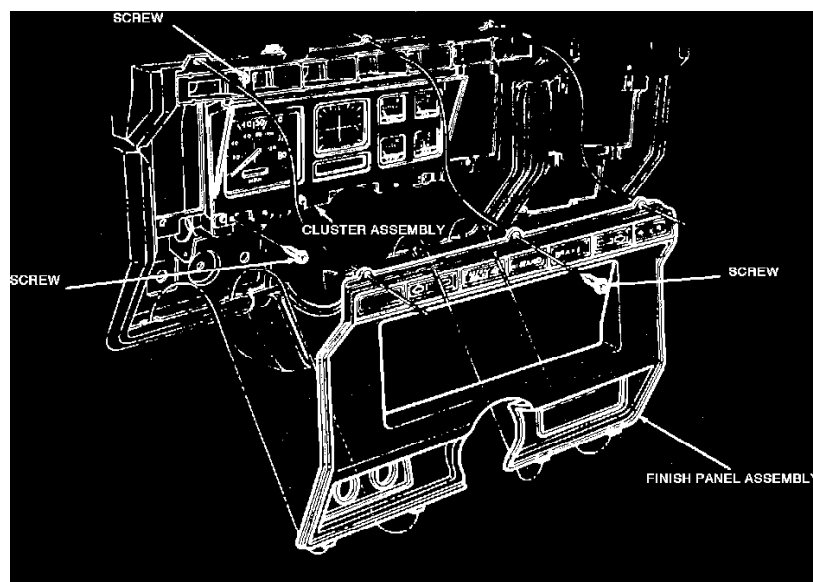

Fig. 10 Instrument Cluster
6. **On all models**, remove cluster finish panel and the cluster attaching screws, **Fig. 10**.
8. Remove cluster from vehicle, **Fig. 10**.